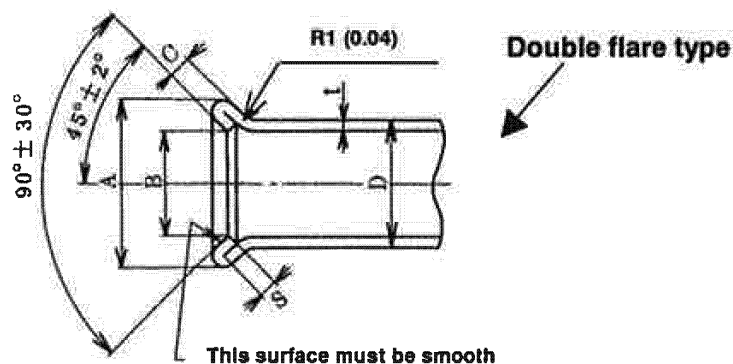

Fig. 1 (1/2)
- Only use metric pipe tools to form the flared end of brake lines as shown in the "Flared end shape figure" in Fig. 1. Be careful to not scratch the tubes, or damage the mating surfaces when flaring the ends.